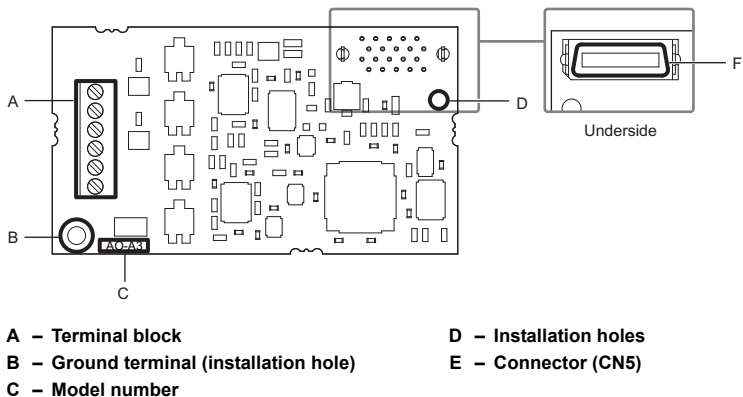

Figure 1 Option Card
- Verify receipt of the correct model by checking the model number printed on the Name plate of the Option Card. (see Figure 1)